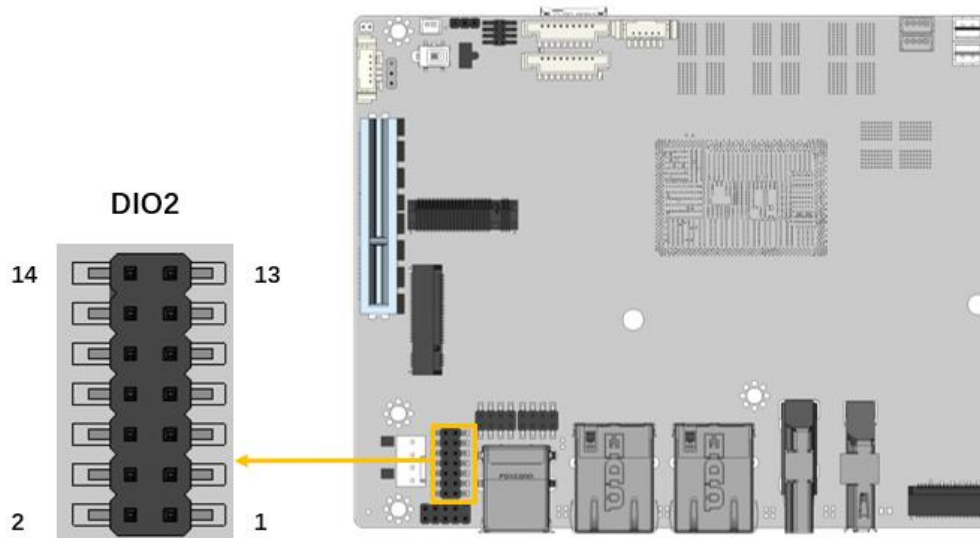

Figure 3-10: Digital I/O Connector Location
- CN Location:** See **Figure 3-10**